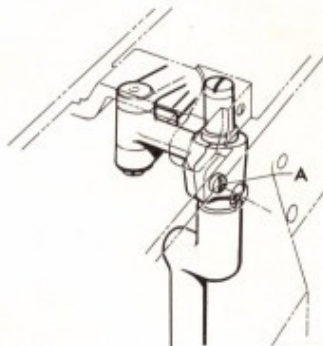
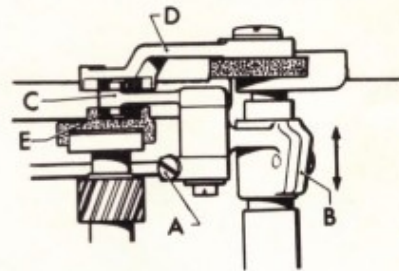

Fig. 11
Fig. 12
- b) Loosen set screw (A) Fig. 11 for zigzag width vertical rod inside arm casting. Holding needle bar securely, shift race body right or left to adjust clearance.
Tighten screw (A) Fig. 11. Make certain in this case that zigzag width vertical rod (B) Fig. 12 is set in a proper lengthwise position so that zigzag regulating rod (C) Fig. 12 zigzag regulating arm (D) Fig. 12 and zigzag regulating slide (E) Fig. 12 will be smooth operating and will not bind.
2. Loosen set screw (A) Fig. 12 and move needle bar to right or left by hand so that needle enters exactly at center of the hole.
3. Tighten screw (A) Fig. 12 securely.